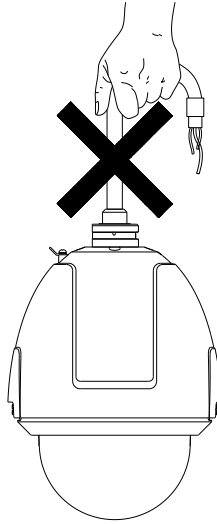

Figure 1-1 Do Not Drag the Cables
**NOTE:** Do not drag the speed dome with its waterproof cables as shown in Figure 1-1, otherwise the waterproofing can be damaged and rendered ineffective.